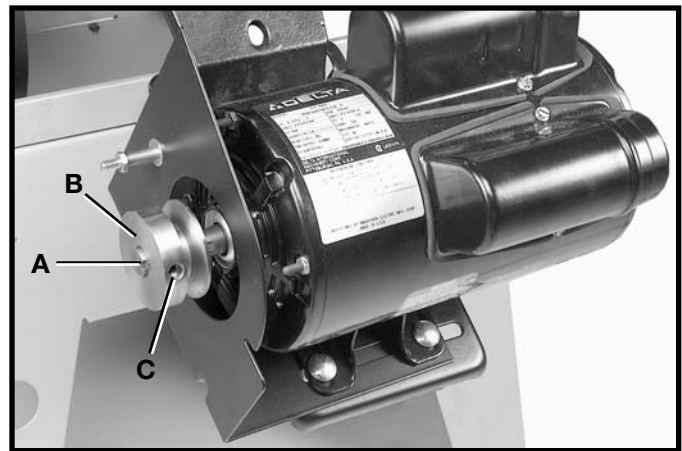

Fig. 19
2. Insert the key (A) Fig. 19 in the keyway on the motor shaft. Assemble the motor pulley (B) on the motor shaft with the hub of the pulley facing out. Tighten set screw (C).